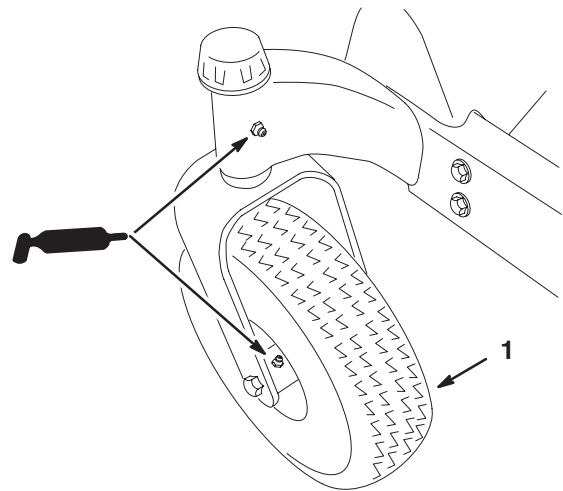

Figure 31
3. Grease the front caster pivot and front wheels (Fig. 31).